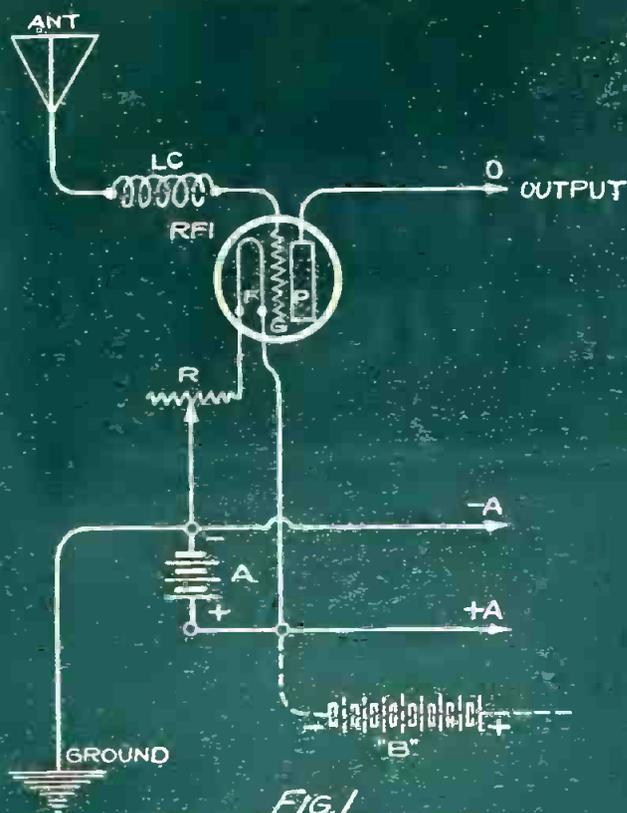

FIG. 1
**O**NE of the simplest radio frequency stages employed is the "Aperiodic" or "Untuned" type of stage shown in Fig. 1 of the Blueprint Section. In this case, the radio frequency tube (RF1), is connected directly to the antenna and ground with the grid (G) going to the antenna without any attempt at tuning. When connected in this way, all wavelengths are amplified indiscriminately within the range of the circuit constants and the selectivity of the stage of course is zero. All tuning controls must be included in the following radio stages, if any, or in the detector circuit which follows the tube (RF1). The output of